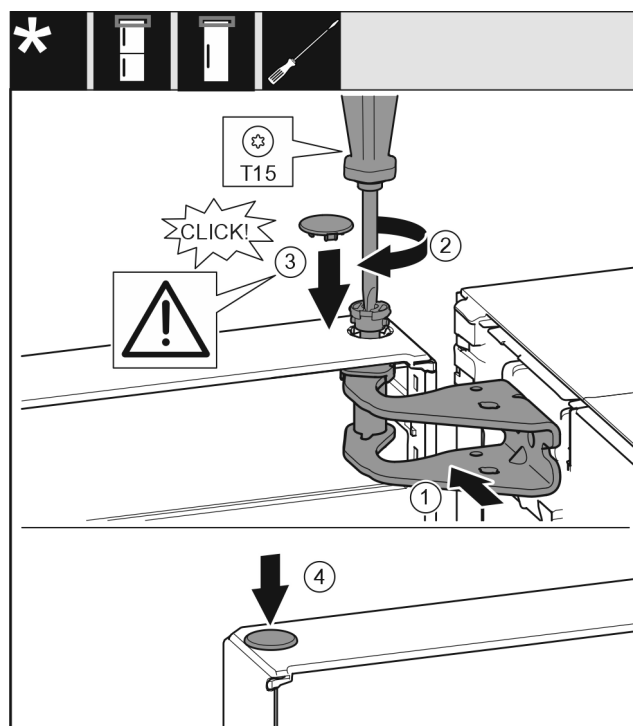

Fig. 23
- Align the top door with the opening in the swap bearing block Fig. 23 (1).
- Insert the bolt Fig. 23 (2) and use screwdriver to tighten it.
- Insert the cover Fig. 23 (3).
- Check that the cover Fig. 23 (3) is resting on the door.
- Insert the cover Fig. 23 (4).